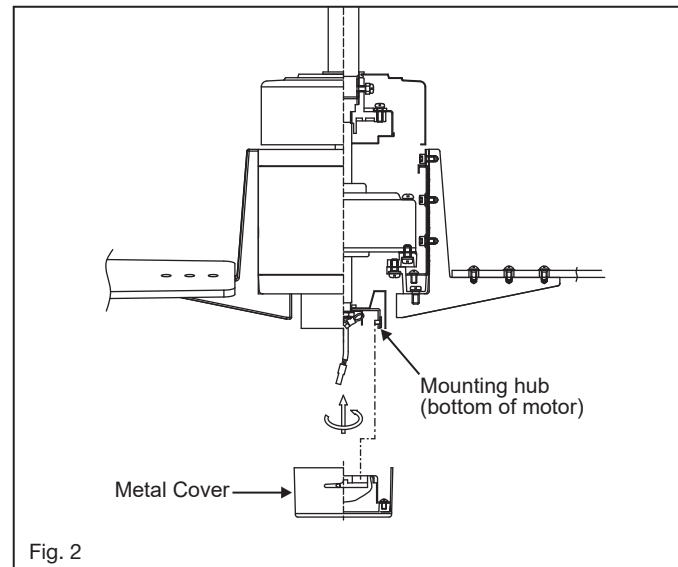

Fig. 2
- 3 Loosen the two security set screws and remove the downrod pin and cotter clip from the coupler on top of the motor assembly. (Fig. 2)
2. Make wire connections from the fan to the receiver unit. For this step use the bundle of 5 wires on the receiver. (Fig. 2)
**NOTE:** The metal light cover included with your fan is an option to replace the glass for the light in the event that you prefer not to use the light feature of your fan. The metal light cover is not necessary for the light operation; it can be saved for later use if desired. (Fig. 2)
- 2 Seat the cradle A into the wall plate. (Fig. 2)
-  Signal light (Fig. 2)